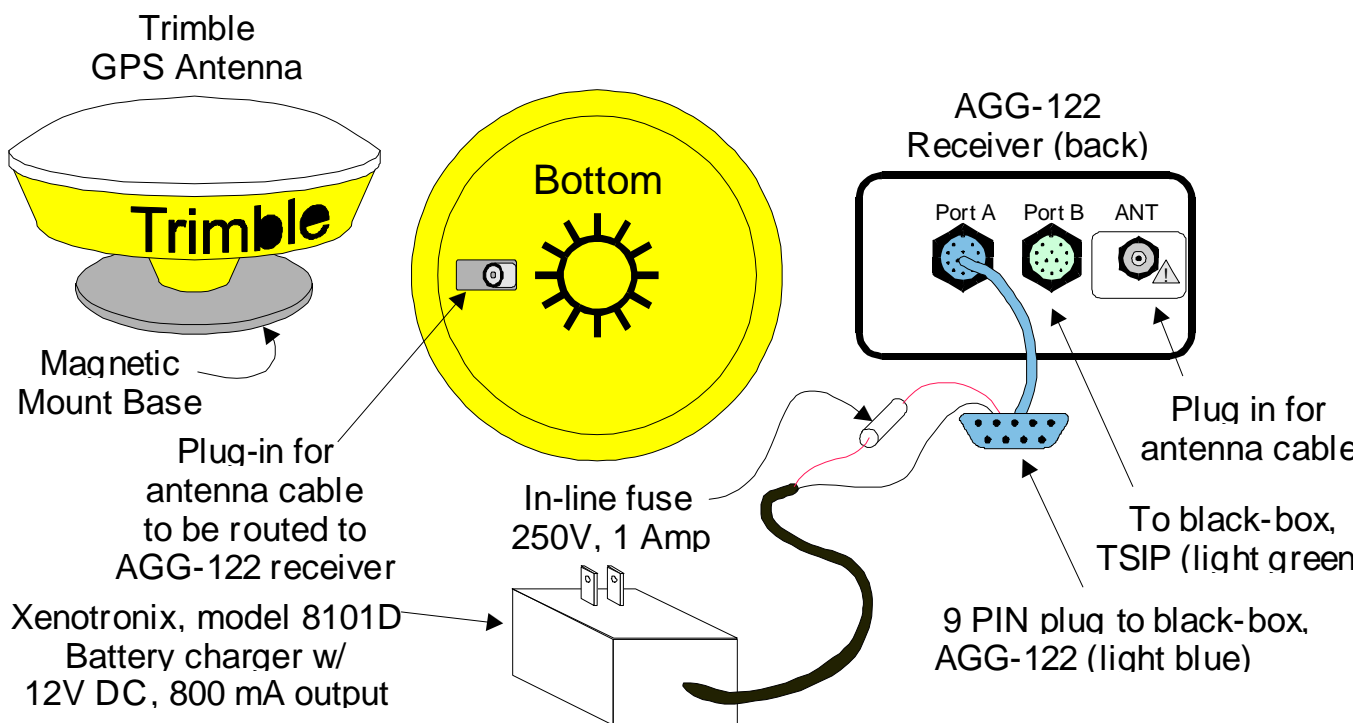

Figure 5
8. Route and attach the Trimble's antenna cable to the AGG-122 receiver (see **Figure 5**).
9. Cut the DC plug off of the Xenotronix battery charger, then wire the negative side of this cord to the negative power supply wire on the power/data line for the AGG-122 and wire the positive conductors of the same cords together with an in-line fuse in between (see **Figure 5**).